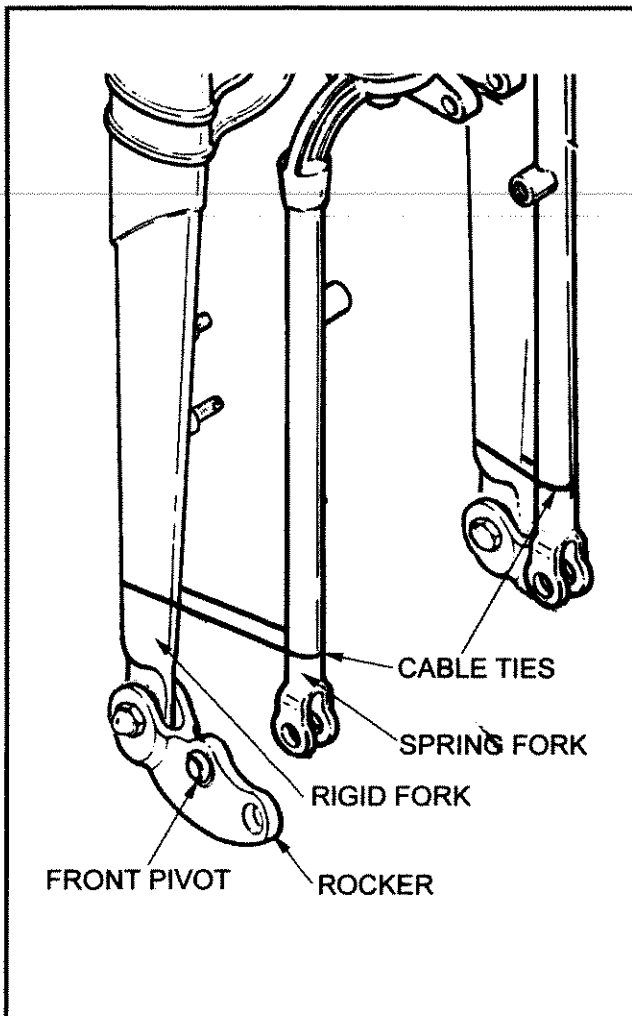

Fig. 3 Attach Cable Ties Here
6. Refer to Fig. 3, and fasten a cable tie around the fork legs and then remove the front pivot bolts from the rockers; let the rockers hang.